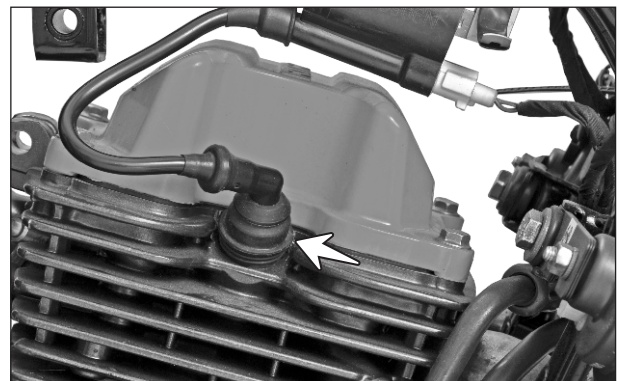

Fig. 2.37
- Disconnect the sparkplug cap and remove the spark plug. (Fig. 2.37)